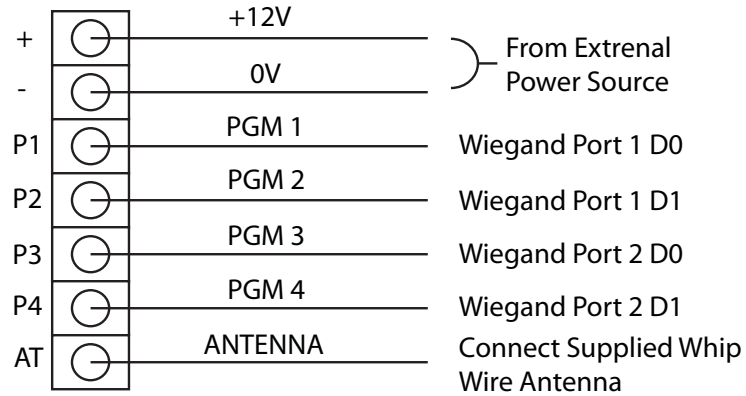

Figure 2 PGM and Antenna Connection Wiring
3. Connect the wiring to the ICT Receiver board as shown in Figure 2.
6. Feed the antenna through the smaller hole in the enclosure and connect it to the ICT receiver as shown in Figure 2.